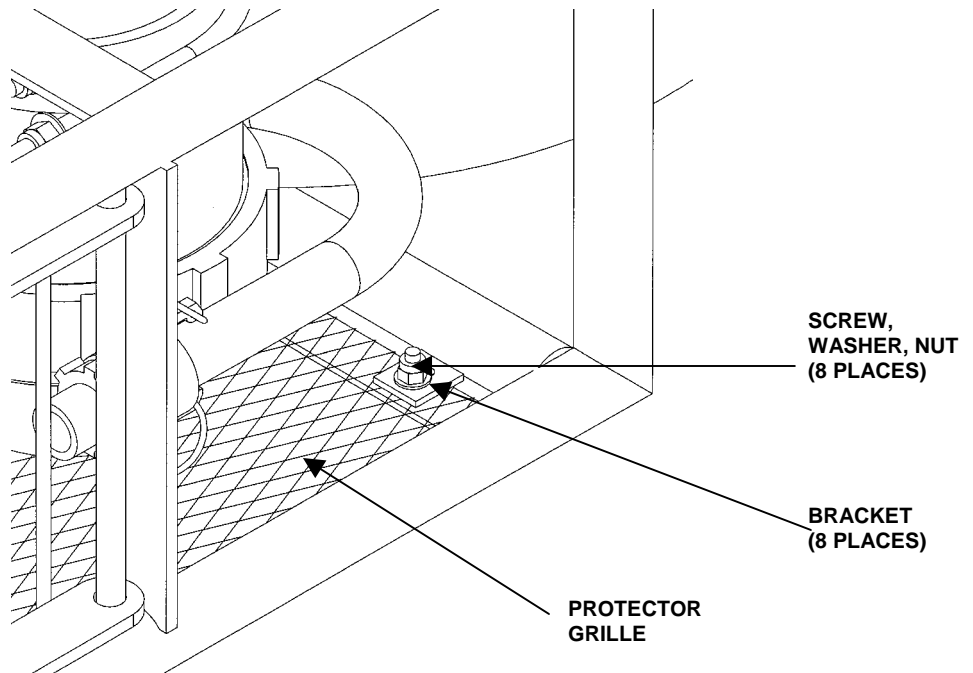

Figure 3. Protective Grille Attachment.
2. Remove eight machine screws, flat washers, and hex lock nuts from eight brackets on base of UF module. See Figure 3.
4. Install eight machine screws, flat washers, and hex nuts through protective grille and brackets. See Figure 3.